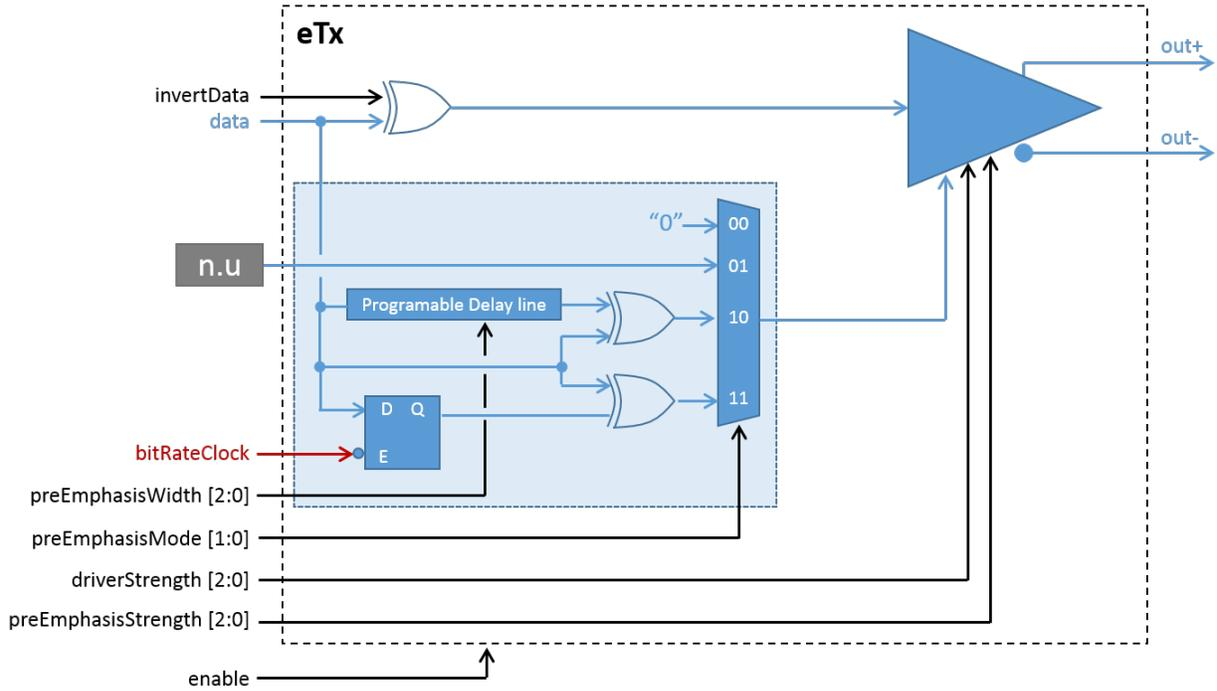

Fig. 7.5: eLink receiver
Fig. 7.5 illustrates the architecture of the IpGBT eLink driver. The same driver is used for the data outputs, up to 320 Mbps, and the clock outputs, up to 1.28 GHz. The driver has been designed to drive 100 Ohm loads with programmable strengths and controlled amounts of pre-emphasis. It has been designed to satisfy the CLPS standard previously described in this chapter. The driver offers many programmable features which include:
- *Enabling a clock driver:* In this case the signal "enable" in Fig. 7.5 becomes: $enable = (EPCLK[G]Freq[2:0] \sim 2'b00)$. That is, every time a clock output is set to work at any of the frequencies between 40 MHz and 1.28 GHz the corresponding driver is enabled. The clock frequency is controlled by bits 2:0 of registers `[0x06c] EPCLK0ChnCntrH` (page 150) to `[0x0a4] EPCLK28ChnCntrH` (page 187);
- *Enabling a data driver:* In this case it is possible that even if a given group is active that a specific channel within that group will not be used. Consequently it is necessary to explicitly enable the channels in use. Here, the signal "enable" in Fig. 7.5 becomes: $enable = EPTX[G][C]Enable$. These signals are controlled by registers `[0x0a9] EPTX10Enable` (page 190) and `[0x0aa] EPTX32Enable` (page 190); Notice that, if the mirror function is not enabled, for a given data rate only the channels indicated in table *ePortTx (downlink) data rates* (page 48) can be enabled. If the mirror function is enabled for a given group it is possible to enable all the channels in that group. The mirror function is controlled on a group basis by signals `EPTX[G]MirrorEnable` in register `[0x0a8] EPTXControl` (page 189) (Bits 3:0).
- *Clock driver strength:* For clock drivers the driving strength is set by the signal "driverStrength[2:0]" in Fig. 7.5 with driverStrength[2:0] = EPCLK[C]DriveStrength[2:0]. These signals are controlled by bits 5:3 of registers [0x06c] EPCLK0ChnCtrH (page 150) to [0x0a4] EPCLK28ChnCtrH (page 187);
- *Data driver strength:* For data drivers the driving strength is set by the signal "driverStrength[2:0]" in Fig. 7.5 with driverStrength[2:0] = EPTX[G][0]DriveStrength[2:0]. These signals are controlled by bits 2:0 of registers [0x0ac] EPTX00ChnCtr (page 191) to [0x0bb] EPTX33ChnCtr (page 202). For the EC channel driverStrength[2:0] = EPTXEcDriveStrength[2:0], these signals are controlled by bits 2:0 of registers [0x0ab] EPTXEcChnCtr (page 190);
- *Clock driver pre-emphasis strength:* For clock drivers the driving strength is set by the signal "preEmphasisStrength[2:0]" in Fig. 7.5 with preEmphasisStrength[2:0] = EPCLK[C]PreEmphasisStrength[2:0]. These signals are controlled by bits 7:5 of registers [0x06d] EPCLK0ChnCtrL (page 150) to [0x0a5] EPCLK28ChnCtrL (page 188).
- *Clock driver pre-emphasis timing:* The pre-emphasis pulse width is controlled by two parameters (Fig. 7.5) the timing **Mode** and the **Pulse Length**. The "Mode" allows to select between no pre-emphasis, pre-emphasis with "clock timed" pulse duration (1/4 of the clock period) or "self timed" where the pulse width can be programmed from 120 ps up to 960 ps. Notice that the "clock timed" mode is not valid if the clock output is set to 1.28 GHz and that in the "self timed" mode the pulse width should never be programmed to exceed 1/2 clock period. The pre-emphasis mode is selected by the signals preEmphasisMode[1:0] = EPCLK[C]PreEmphasisMode[2:0] that are controlled by bits 4:3 of registers [0x06d] EPCLK0ChnCtrL (page 150) to [0x0a5] EPCLK28ChnCtrL (page 188). When in the "self timed" mode, the signals preEmphasisWidth[2:0] = EPCLK[C]PreEmpahasisWidth[2:0] set the pulse width and are controlled by bits 2:0 of registers [0x06d] EPCLK0ChnCtrL (page 150) to [0x0a5] EPCLK28ChnCtrL (page 188).
- *Data driver pre-emphasis strength:* For data drivers the driving strength is set by the signal "preEmphasisStrength[2:0]" in Fig. 7.5 with preEmphasisStrength[2:0] = EPTX[G][C]PreEmphasisStrength[2:0]. These signals are controlled by bits 7:5 of registers [0x0ac] EPTX00ChnCtr (page 191) to [0x0bb] EPTX33ChnCtr (page 202). For the EC channel preEmphasisStrength[2:0] = EPTXEcDriveStrength[2:0], these signals are controlled by bits 7:5 of registers [0x0ab] EPTXEcChnCtr (page 190);
- *Data driver pre-emphasis timing:* The pre-emphasis pulse width is controlled by two parameters (Fig. 7.5) the timing **Mode** and the **Pulse Length**. The "Mode" allows to select between no pre-emphasis, pre-emphasis with "clock timed" pulse duration (1/2 of the clock period) or "self timed" where the pulse width can be programmed from 120 ps up to 960 ps. Notice in the "self timed" mode the pulse width should never be programmed to exceed the bit period. The pre-emphasis mode is selected by the signals preEmphasisMode[1:0] = EPTX[G][C]PreEmphasisMode[1:0] that are controlled by bits 4:3 of registers [0x0ac] EPTX00ChnCtr (page 191) to [0x0bb] EPTX33ChnCtr (page 202). When in the "self timed" mode, the signals preEmphasisWidth[2:0] = EPTX[G][C]PreEmpahasisWidth[2:0] set the pulse width and are controlled by bits 6:4 and 2:0 of registers [0x0bc] EPTX01_00ChnCtr (page 203) to [0x0c3] EPTX33_32ChnCtr (page 208). For the EC channel the pre-emphasis mode is selected by the signals preEmphasisMode[1:0] = EPTXEcPreEmphasisMode[1:0] that are controlled by bits 4:3 of register [0x0ab] EPTXEcChnCtr (page 190). When in the "self timed" mode, the signals preEmphasisWidth[2:0] = EPTXEcPreEmphasisWidth[2:1] set the pulse width and are controlled by bits 6:4 of register :ref:*REG_EPTXCONTROL.